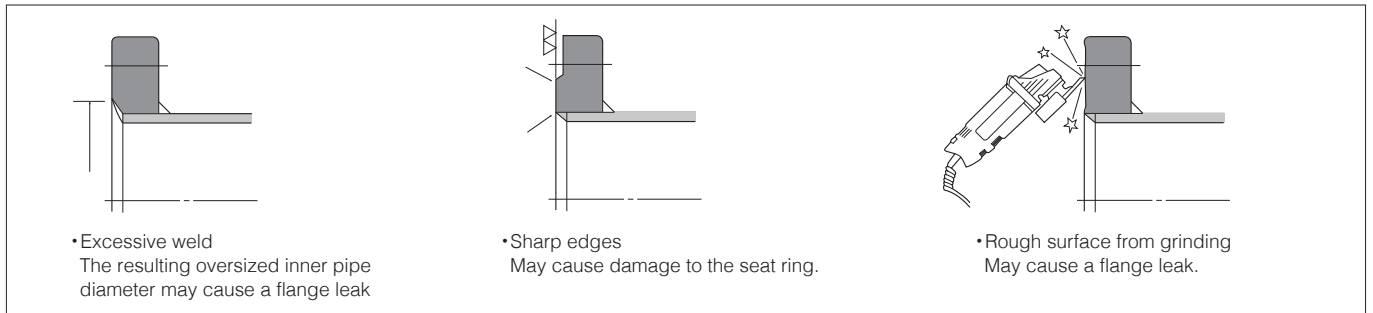

Fig. 4
- (2) The seat ring might become damaged or the flange may leak if the flange face that contacts the valve seat ring is as shown in Fig. 4. Also, please confirm that there is no distortion to the flange or that there is no damage, such as scratches, to the flange face.